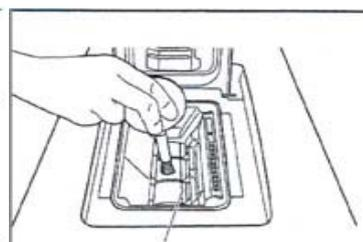

Figure 8-26
- 1) Using the air pump to clean the test strip feeder.(Figure 8-26).